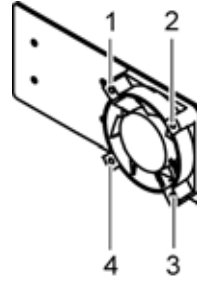

Figure 34: Fan Screws
6. Remove the 4 screws attaching the fan to the fan bracket. See Figure 34.